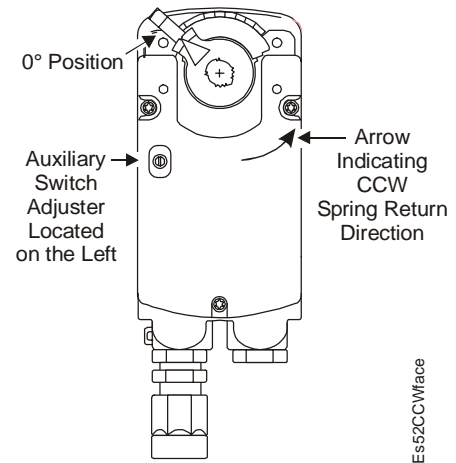
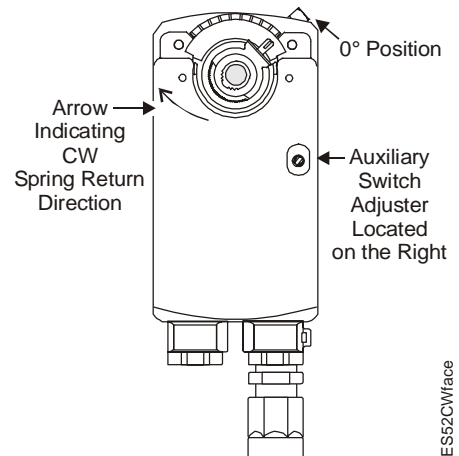

Figure 1: CCW Face of the Actuator
Figure 2: CW Face of the Actuator
For CCW spring return operation, mount the actuator to the damper shaft so the CCW face of the actuator (shown in Figure 1) is away from the damper. The coupler is at the 0° position to drive Clockwise (CW) and spring return CCW.
To change the spring return direction to CW, mount the actuator to the damper shaft so the CW face of the actuator (Figure 2) is away from the damper. The actuator now drives CCW from the 0° position.
The -S1 models have a built-in auxiliary switch with a switch adjuster accessible on either face of the actuator. (See Figure 1 and Figure 2.) The factory setting is 20°, nominal. See *Auxiliary Switch Rating* in the *Technical Specifications* section.